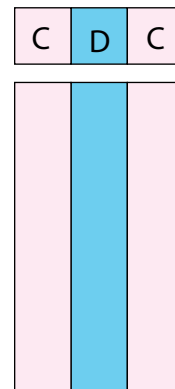

Fig. 4
4. Cut the CDC strip set into (20) $1\frac{1}{2}$ " x $3\frac{1}{2}$ " CDC strips (Fig. 4).